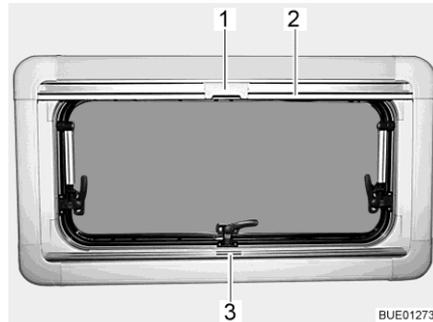

Fig. 119 Hinged window
Closing: ■ Grip the Roman shade in the centre of the holding bar (Fig. 119,3), pull it from the bottom to the top and then release it at the desired height. The Roman shade will stay at this height.
Closing: ■ Pull the insect screen down using the holding bar (Fig. 119,2), until it touches the holding bar of the Roman shade (Fig. 119,3).
■ Clip the catch (Fig. 119,1) on the insect screen into the handle of the Roman shade.
Opening: ■ Push the catch (Fig. 119,1) on the insect screen inwards.
■ Move the insect screen back slowly on the holding bar (Fig. 119,2).